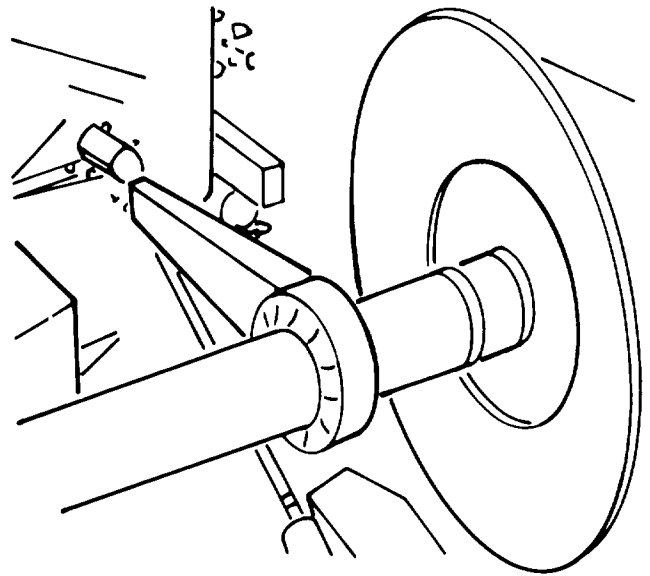

Figure A-27. Flywheel
v. Flywheel. Using a 36mm socket on the special flywheel nut tool, loosen the flywheel nut. (Figure A-27.)